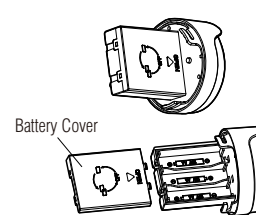

Figure 3
2. To install the batteries (CC) open the battery cover within the light head. (Figure 3)